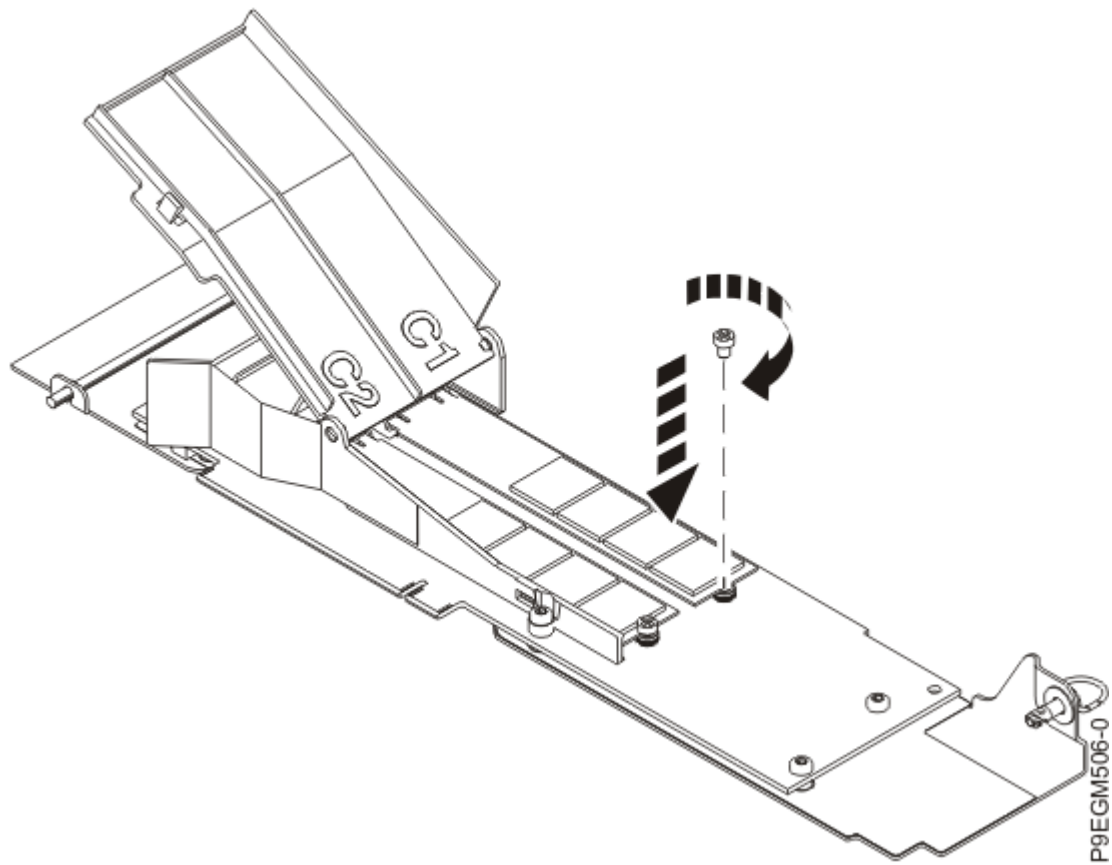

Figure 11. Securing the NVMe M.2 flash module onto the carrier card
5. Using a Phillips screwdriver, secure the flash module onto the NVMe M.2 carrier card. See Figure 11 on page 14.